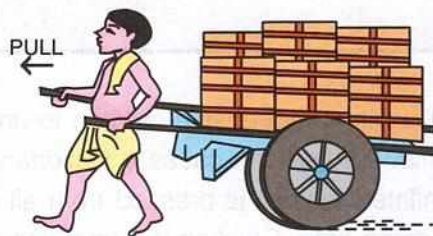

Fig. 3.5 Force as pull on a luggage trolley
3. To move a luggage trolley, the bellboy applies force as a pull on the trolley (Fig. 3.5).